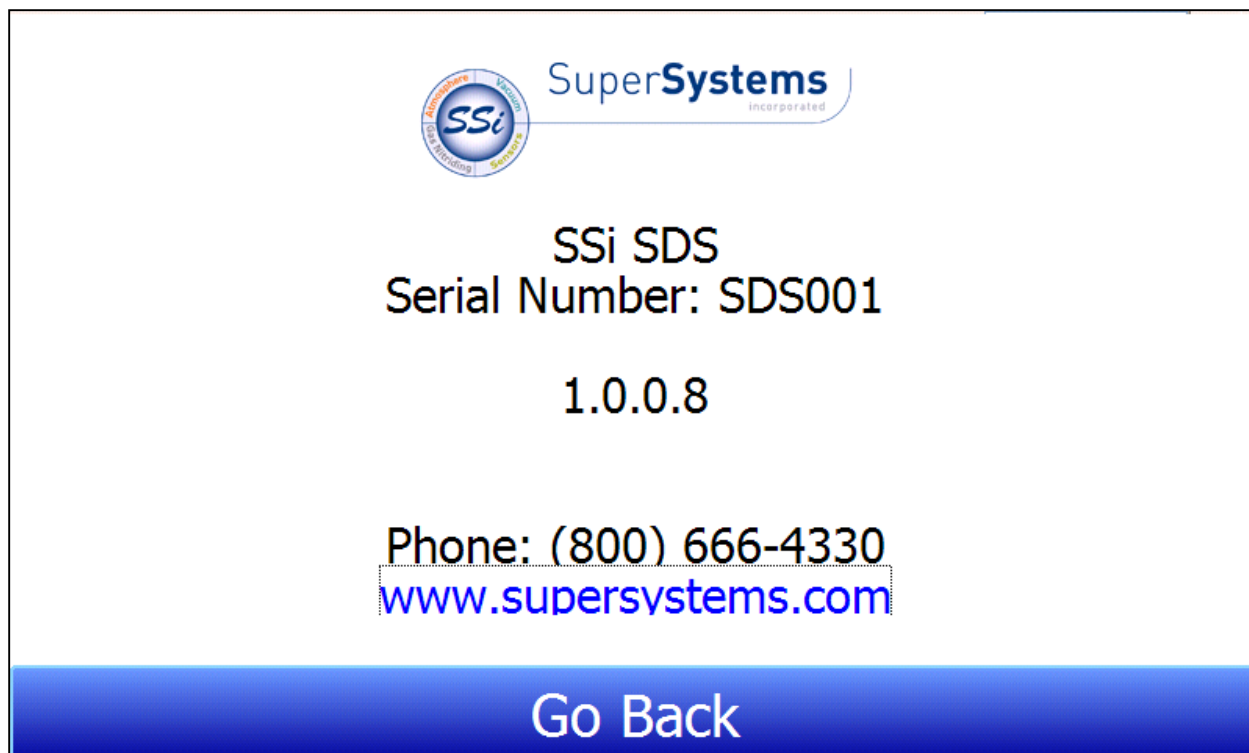

Figure 38 - The About Screen
- About. This option simply shows the About screen for Super Systems SDS, as shown in Figure 38.